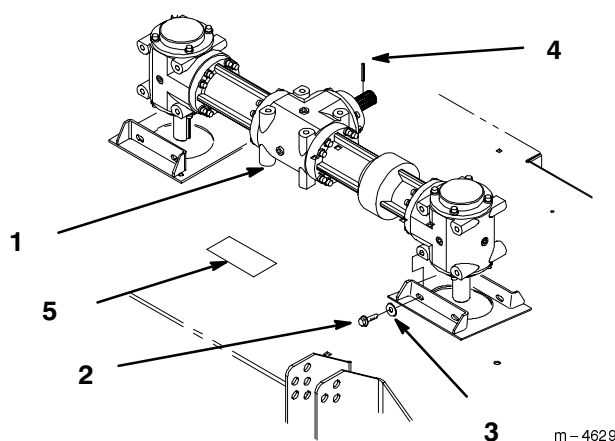

Figure 3
1. Place new gearbox on deck. The vertical output shafts should be centered in the two cone-shaped recesses in the top of the deck (Fig. 3).
2. Insert bolts, with washers, through mounting brackets and into gearbox mounting holes (Fig. 3). Torque mounting bolts to 260 ± 25 in-lbs.